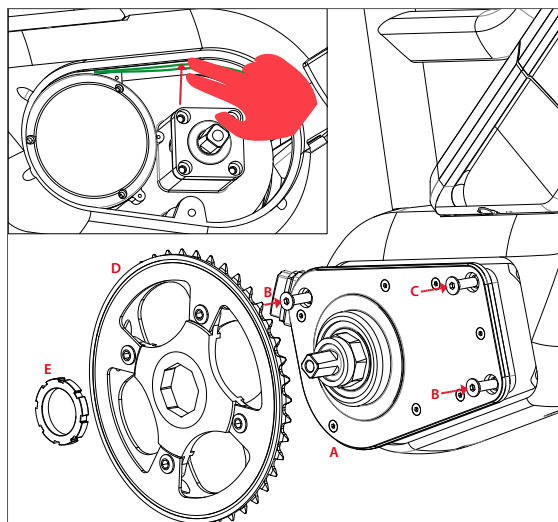

Figure 4.5 Mid motor assembly 1
2. Insert the motor [A] into the hanger (Fig. 4.5).
3. Mount the motor using three M8 x 25 fasteners [B] and one M8 x 18 fastener [C] (Fig. 4.5 and 4.8). Tighten the fasteners to 18 - 20 Nm.
5. Install the chain ring [D] and the spider nut [E] and tighten them with the wrench (Fig. 4.5, 4.6 and 4.10).
7. Install the chain ring [D] and the spider nut [E] and tighten them with the wrench (Fig. 4.5, 4.6 and 4.10).
3. Mount the motor using three M8 x 25 fasteners [B] and one M8 x 18 fastener [C] (Fig. 4.5 and 4.8). Tighten the fasteners to 18 - 20 Nm
5. Install the chain ring [D] and the spider nut [E] and tighten them (Fig. 4.5).